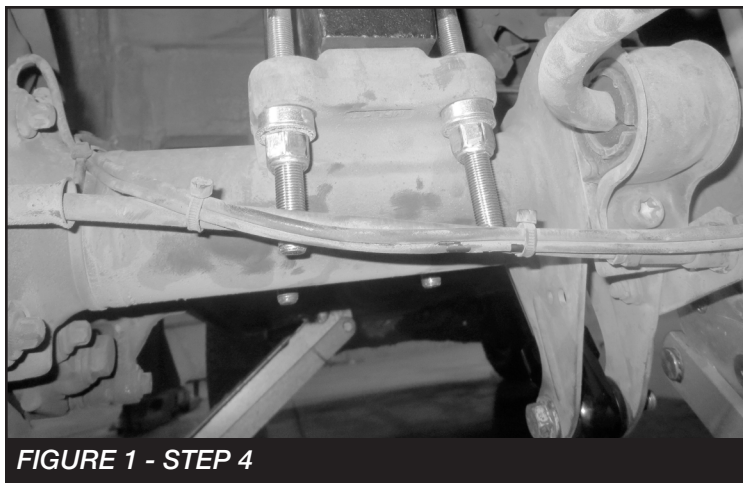

FIGURE 1 - STEP 4
4. Install the new block/bumpstop using the supplied ubolts and hardware. **NOTE: Install two FT120 (Spacer) onto each ubolt before the washers and nuts. SEE FIGURE 1.** Torque to 90 ft-lbs.